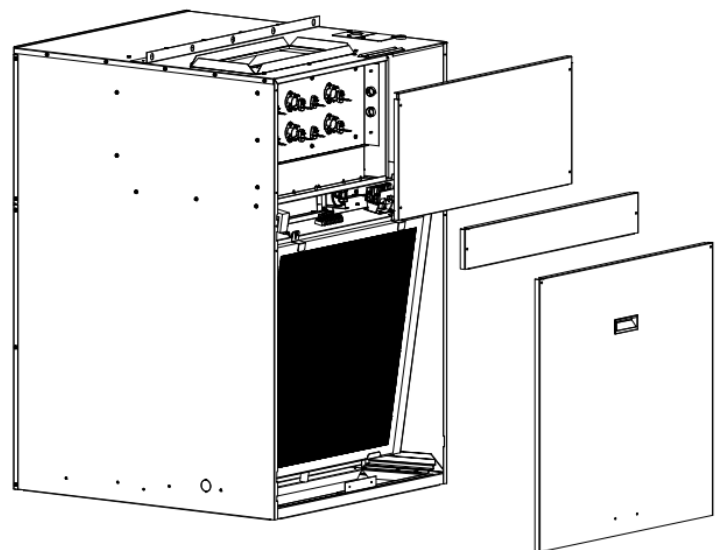

FIGURE 42 - Removal of Front Panel
- 1) Remove screws (8) from top front panel, control cover panel and air filter access panel, then remove all these three panel from the cabinet. See FIGURE 42 - Removal of Front Panels.